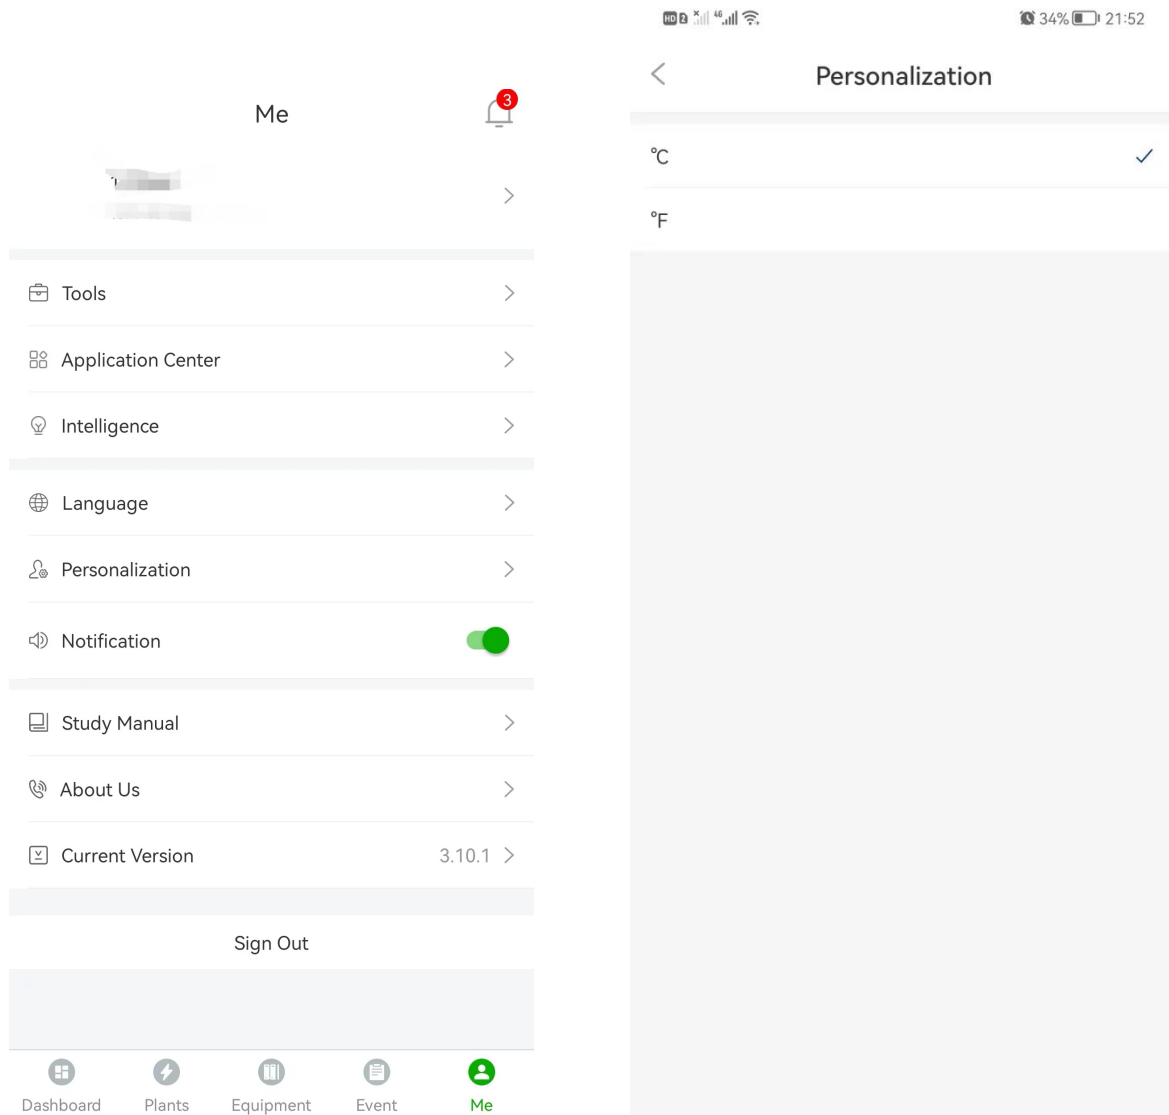

Figure 10-2 Personalization
1.If you choose the "Personalization", you can change the temperature unit, as shown in Figure 10-2.